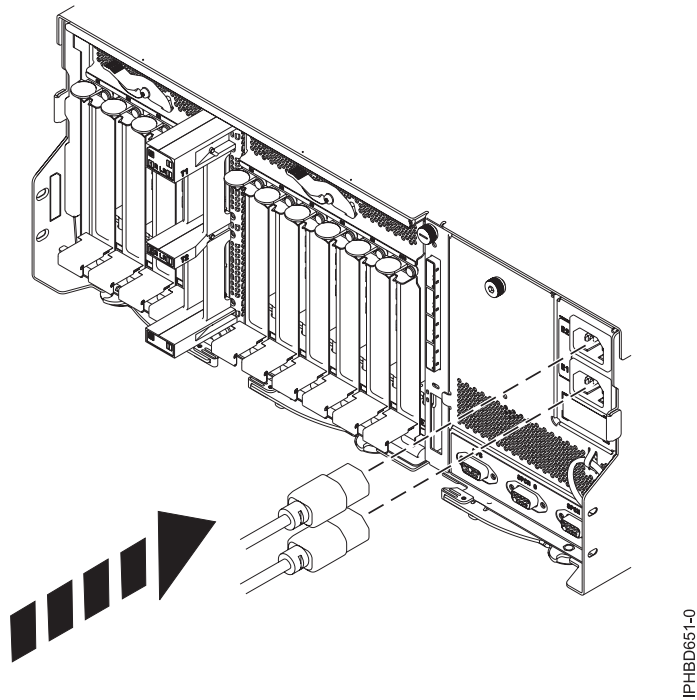

Figure 30. Connecting the power cables at the rear of an expansion unit
7. At the rear of the expansion unit, connect both of the power cables, as shown in Figure 30.